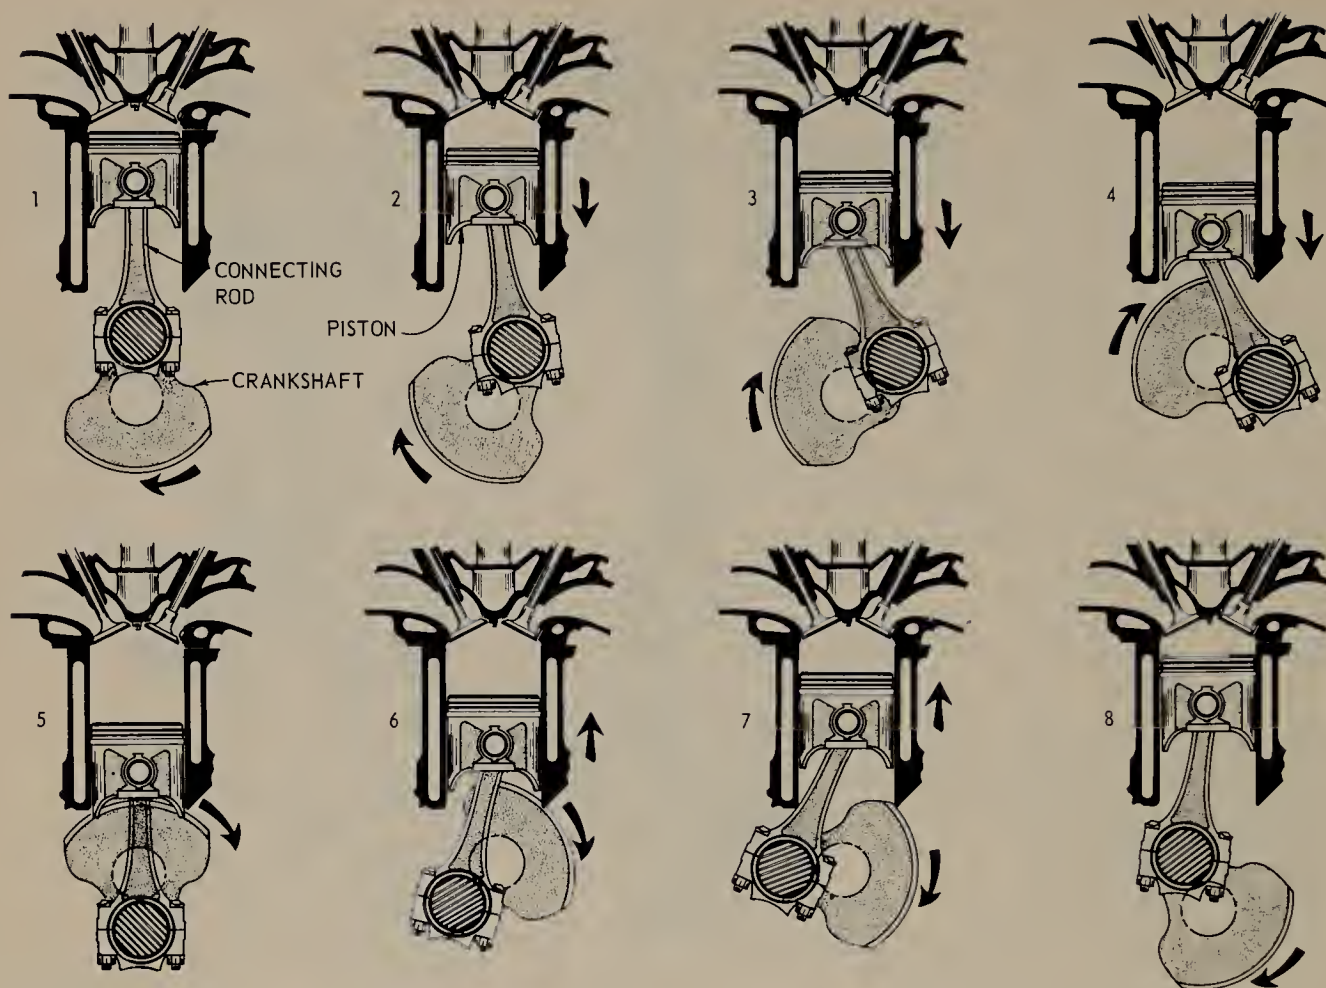

FIGURE 3.10 Sequence of actions as the crankshaft completes one revolution and the piston moves from top to bottom to top again.
The crank is a very common device which is used in many machines. For example, the pedal and its support on a bicycle form a crank (Fig. 3.8). The pencil sharpener has a crank (Fig. 3.9). When you put pressure on the foot pedal, or on the sharpener handle, so it swings in a circle, you cause a shaft to turn. In the same way, when the piston is pushed down in the cylinder by the explosion, the push on the piston, carried through the connecting rod to the crank, causes the shaft to turn. Figure 3.10 shows the motions that the piston, connecting rod, and crank go through. As the piston moves up and down, the top end of the connecting rod moves up and down with it. The bottom end of the connecting rod swings in a circle along with the crank.
3.4 Crankshaft. The crank is part of the crankshaft. It is an offset section, as shown in Fig. 3.11, to which the connecting-rod big end is attached by a bearing. The crankshaft is mounted in the engine on bearings which allow it to rotate. As it rotates, the crank swings in a circle, as shown in Fig. 3.10.
of the crankcase. There are holes under the reed valve that connect it with the engine carburetor. When the piston is moving up, a partial vacuum is produced in the sealed crankcase. Atmospheric pressure lifts the reed valve off the holes and pushes air-fuel mixture into the crankcase (Fig. 3.10). After the piston passes TDC and starts down again, pressure begins to build up in the crankcase. This pressure closes the reed valve so that further downward movement of the piston compresses the trapped air-fuel mixture in the crankcase. The pressure which is built up on the air-fuel mixture then causes it to flow up through the intake port into the engine cylinder when the piston moves down enough to clear the intake port (Fig. 3.17).